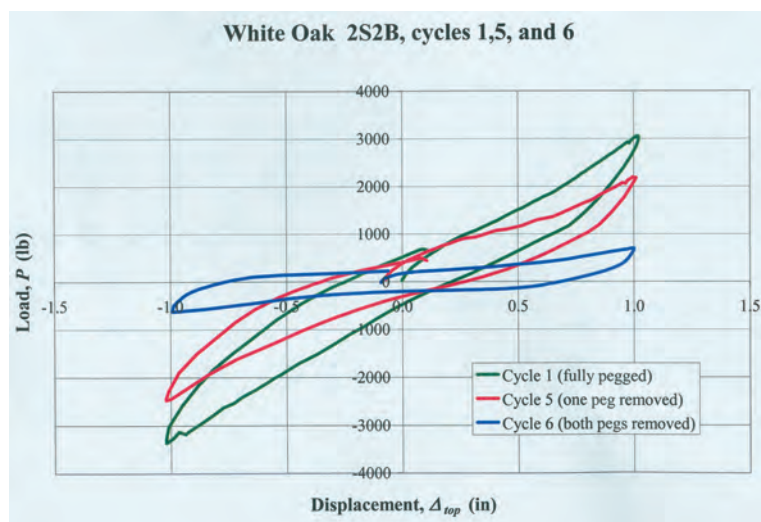

FIGURE 5. EFFECT OF REMOVING BRACE PEGS.
**Removal of Brace Pegs:** The effects of removing brace pegs from the white oak frame are shown in Table 2 and Fig. 5. In this frame, each brace joint had two pegs. One of the pegs was removed for cycle 5 and both were removed for cycle 6. With one peg removed, the frame still had greater stiffness than any of the other frames.